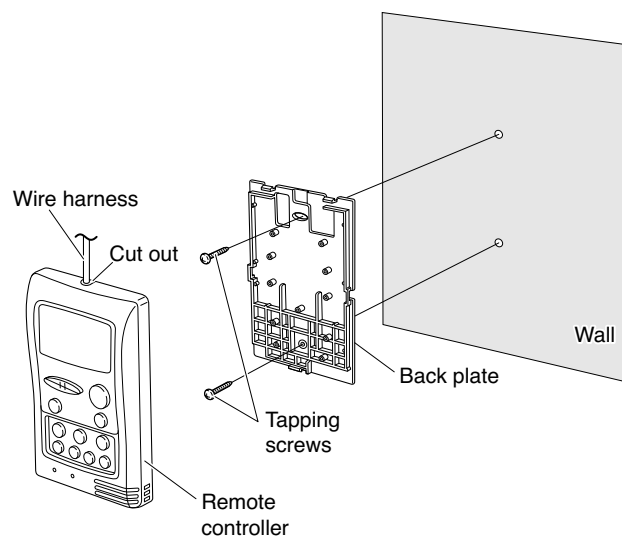

Fig. 6
- (2) Use tapping screws to directly fasten the remote controller back plate onto the wall. (Fig. 6)